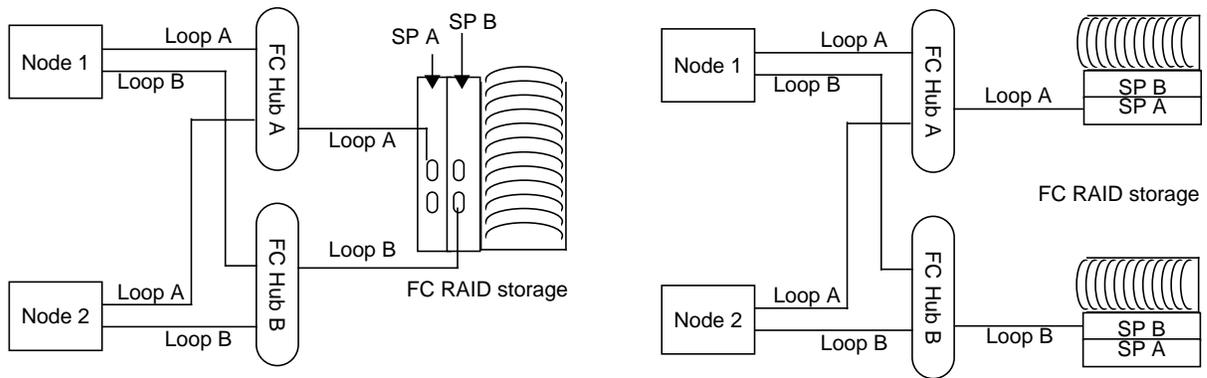

Figure 2-3 Dual-Loop Configurations With Fibre Channel RAID Storage
Figure 2-3 diagrams examples that use Fibre Channel RAID storage; each loop is connected to a separate storage processor (SP).